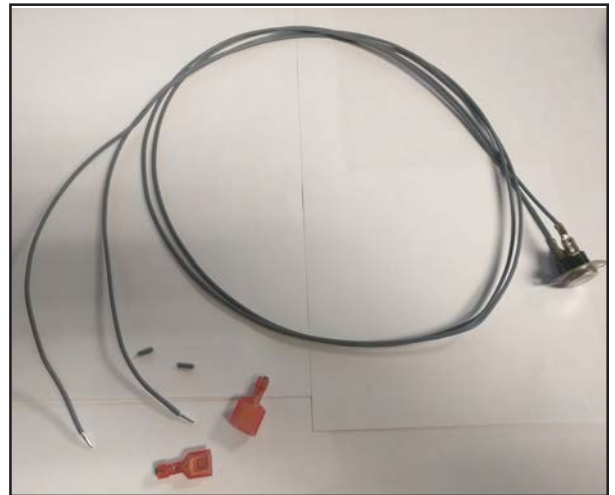

Figure 56: Spill Switch Modification
Step 1: Cut off the connectors from the one end of the wires. Note, the spill switch does not need to be removed from the Drafhhood Adaptor for this modification (Figure 56).